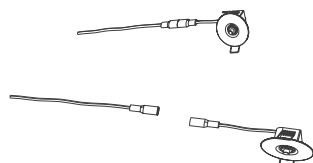

Figure 3-1
1. Disconnect the quick connector of the Remote Round Ceiling Mount Test Switch and indicator Light (refer to Figure 3-1).